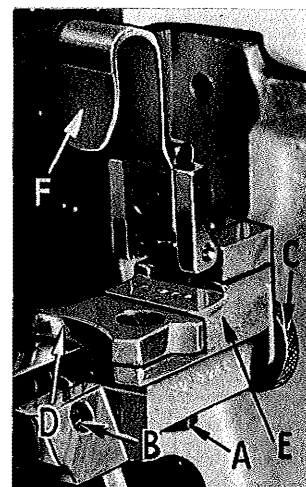
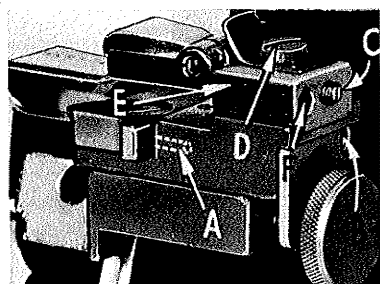

Fig. 19
Fig. 20
Make sure that lock screw (A, Fig. 19) is loose, then proceed as follows:
Assemble the hemming guide support bracket onto the lower knife support bracket by means of screw (B, Fig. 19). With the knurled adjusting screw (C), set the edge guide (D) so that the left side of its tip is even with and parallel to the right side of the right feed slot in the throat plate.
When the edge guide tip is in this position, the front or leading edge should be slightly to the right of parallel. This adjustment can be made by positioning the stop screw (A, Fig. 20) located towards the front of the hinge block and edge guide support bracket (E, Fig. 19).
Under normal conditions, the edge guide is spring loaded to compensate for the differences in the material thickness. For example, as in going over seams. The amount of movement and the pressure applied to the edge guide tip can be set by removing lock screw (B, Fig. 20) and adjusting the screw which presses against the spring and pin, located in the hinge block and edge guide support bracket (E, Fig. 19). Replace lock screw and tighten securely.
If movement of the edge guide is not required, then remove lock screw (B, Fig. 20), set screw and spring; then replace set screw and lock screw. Be sure set screw is tightened against pin and lock screw is tightened against set screw.
Adjust the edge guide (D, Fig. 19) by turning the knurled adjusting screw (C) so that the stitches are located in the folded edge, yet do not show on the face of the fabric. At this point re-tighten screw (A, Fig. 19) securely.
Adjust the overhanging guide (F, Fig. 19) so that the space between its guiding edge and the edge guide (D) corresponds with the thickness of the material to be hemmed. Loosen set screw (C, Fig. 20) and holding screw (D), now move the hinge block (E) to obtain the proper distance between the edge guide and the overhanging guide. Re-tighten screws (C) and (D). Remove lock screw (F) and adjust stop screw that is in front of lock screw, so that the tip of the overhanging guide is located at the center of the edge guide vertically. Replace lock screw (F) and tighten against stop screw.